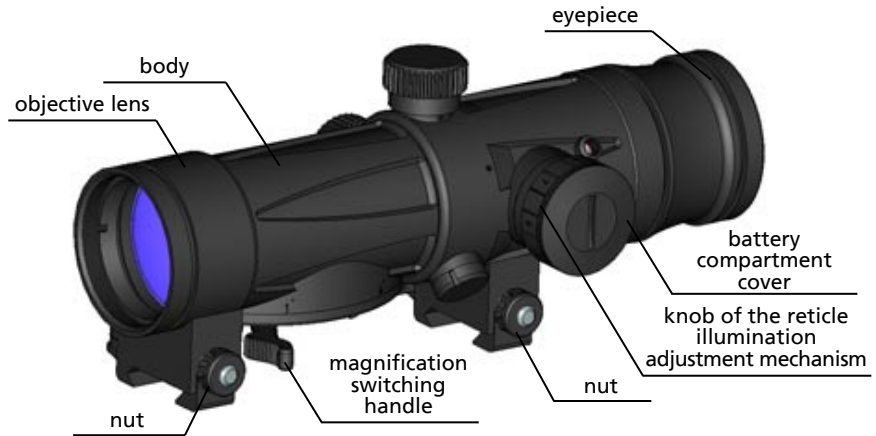

Figure 1
- Unscrew the battery cover (figure 1).
1.6.4 Magnification switching handle (figure 1) has two fixed positions 1^x and 4^x. Switch magnification in the following order:
- Push against the stop to the axle of the clamping unit from the handle, unscrew the nut (figure 1) (counter)clockwise at the required angle.